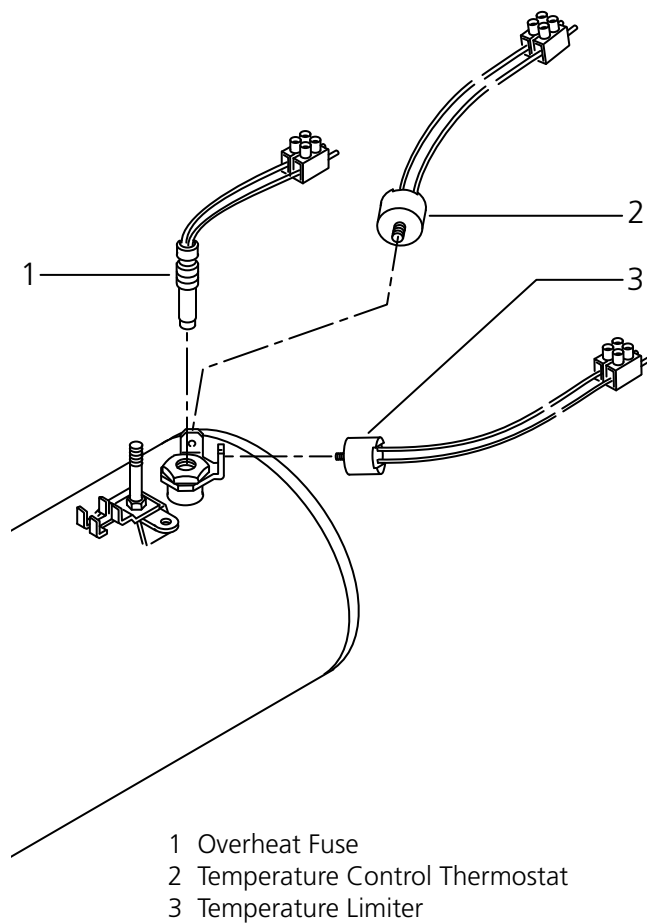

Figure 37: Temperature Control Elements
2. Turn counterclockwise to remove overheat fuse (item 1, Fig. 37) from dry-well.
2. Turn counterclockwise to remove temperature control thermostat (item 2, Fig. 37).
2. Turn counterclockwise to remove temperature limiter (item 3, Fig. 37).